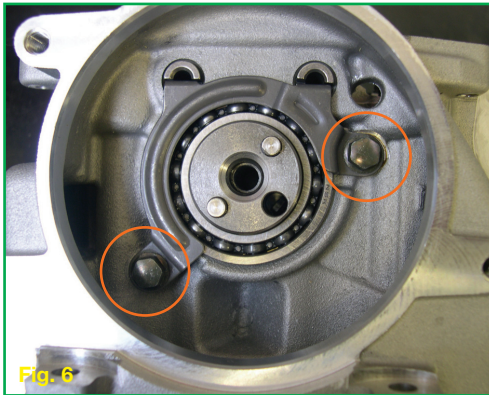

Fig. 6
- Remove the two M6 screws and the camshaft safety plate (Fig. 6).